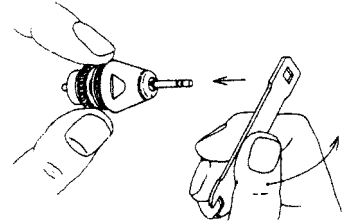

Fig. 6
(1) Removal of Chuck
- Remove the cartridge with a bur or dummy bur as it is installed. Hold the rotor with two fingers as shown on the Fig.6. Mount the wrench provided on the rotor nut located on the top of rotor shaft and turn counterclockwise. (Either side of wrench can be used.)